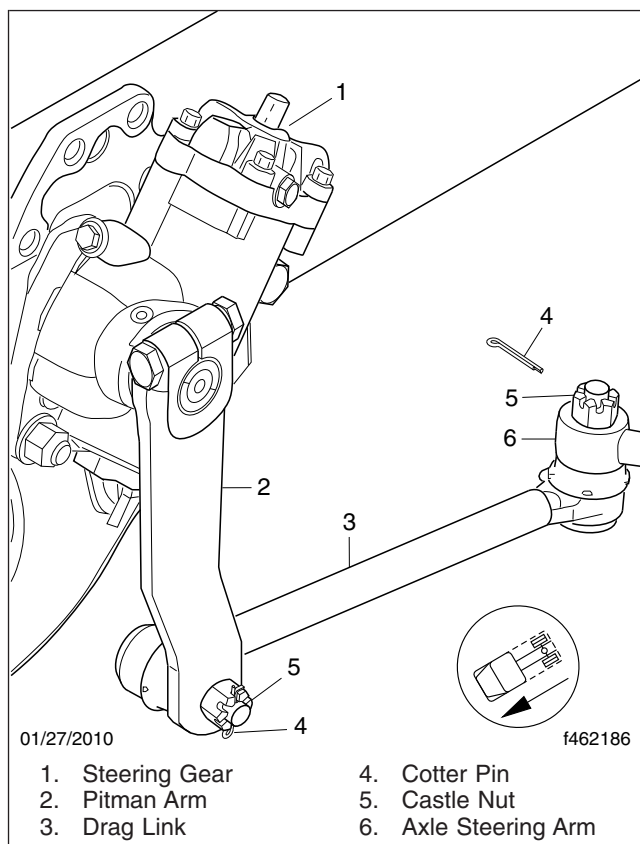

Fig. 1, Drag Link Assembly
- 5.1 Remove the cotter pin and castle nut from the ball stud. See Fig. 1.